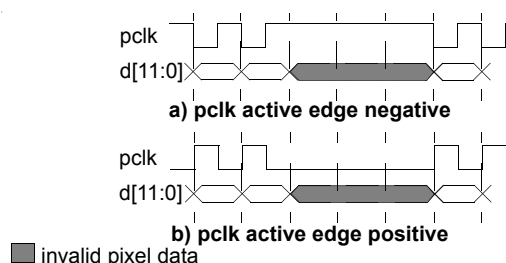

Figure 38. pclk in Data Ready Mode
- In data ready mode, the pixel clock output pin (*clk*) will produce a pulse with a specified level every time valid pixel data appears on the digital video bus $d[11:0]$ as shown in Figure 38.